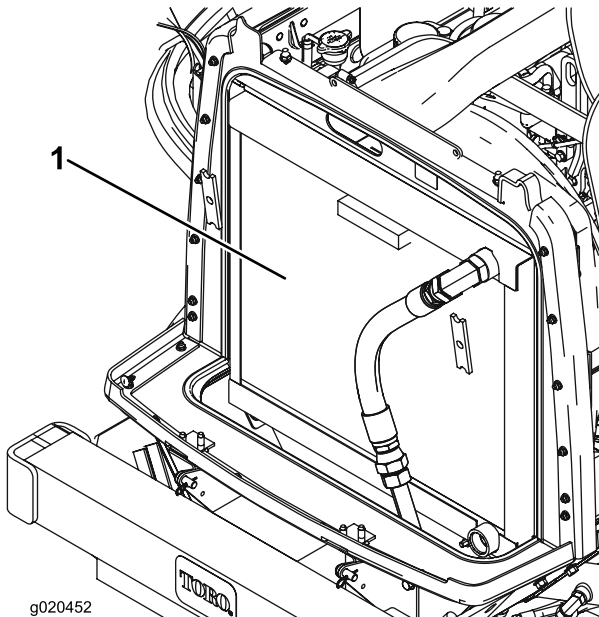

Figure 62
2. Clean both sides of the radiator/oil cooler area (Figure 62) thoroughly with compressed air. Start from the fan side and blow the debris out toward the back. Then clean from the back side and blow toward the front. Repeat procedure several times until all chaff and debris is removed.